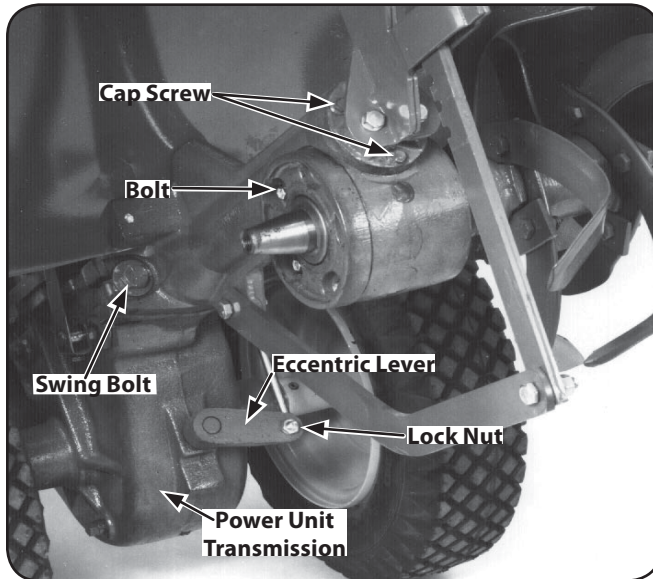

Figure 6-3
- The three rear bearing cap screws are located under the depth regulator mounting bracket. If any are loose, it can cause an oil leak or drive shaft end play. See Fig. 6-3.
- Check the locknut that fastens the shifting linkage to the eccentric shifting lever. See Fig. 6-3. Do not tighten the locknut against the eccentric lever. It should be very close to, but not touching the lever.